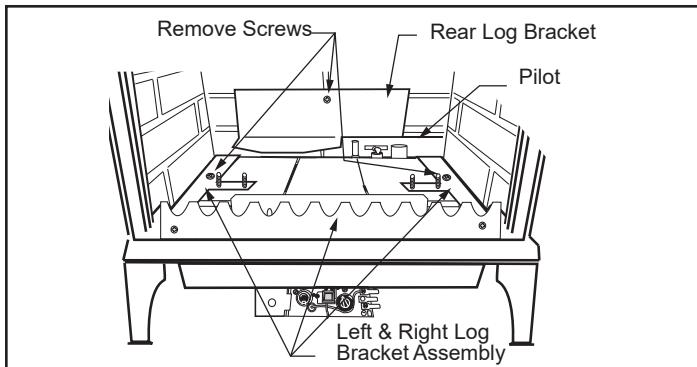

Figure 4.2 - Remove rear log bracket and left and right log bracket assembly.
5. Remove the rear log bracket by unfastening the screw, Figure 4.2.
6. Remove the right and left log bracket assembly by unfastening the two screws which hold the burner in place, Figure 4.2.
8. The air shutter is located on the bottom of the burner to the left, Figure 4.2. Unfasten the two nuts holding the shutter in place.